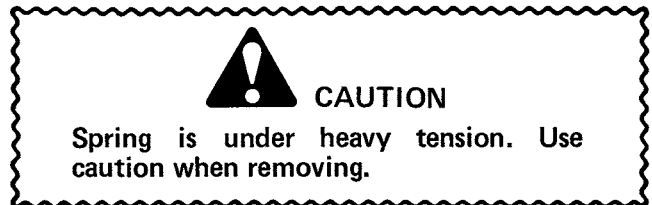

Figure 32
4. Tip snowthrower onto auger housing and block it so it cannot fall. Remove rear shield and disconnect spring from side plate (Fig. 32).